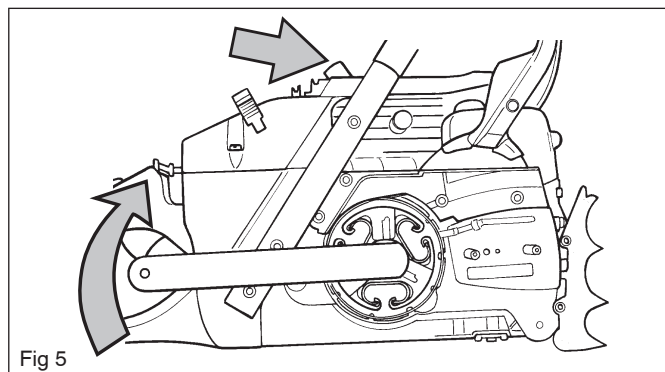

Fig 5
Remove the clutch with the clutch tool. Note the left-hand thread. Screw in the direction of the arrow. See fig. 5.
13. Take out the retaining bush (H) with spring. See fig. 5.